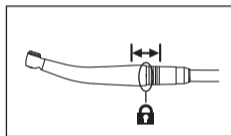

Fig. 5
- 2 Make sure the handpiece is connected firmly to the hose (Fig. 5).